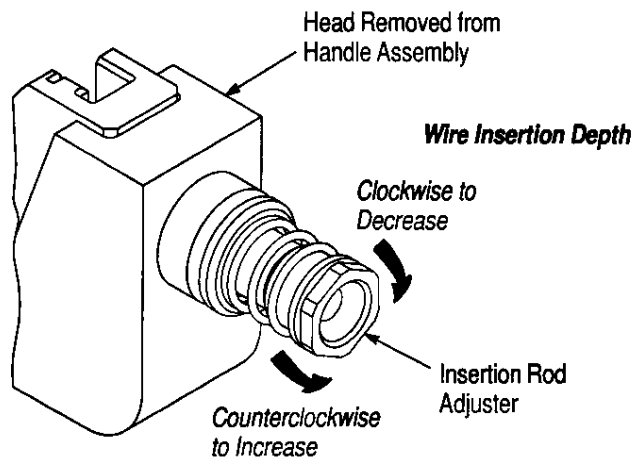

Figure 6
2. If the wires are too deep in the contact slots, turn the insertion rod adjuster *clockwise*. A $\frac{1}{6}$ -revolution will decrease the wire insertion depth by approximately 0.20 mm [.008 in.]. If the wires are not deep enough in the contact slots, turn the adjuster *counterclockwise*. A $\frac{1}{6}$ -revolution will increase the wire insertion depth by approximately 0.20 mm [.008 in.]. See Figure 6.